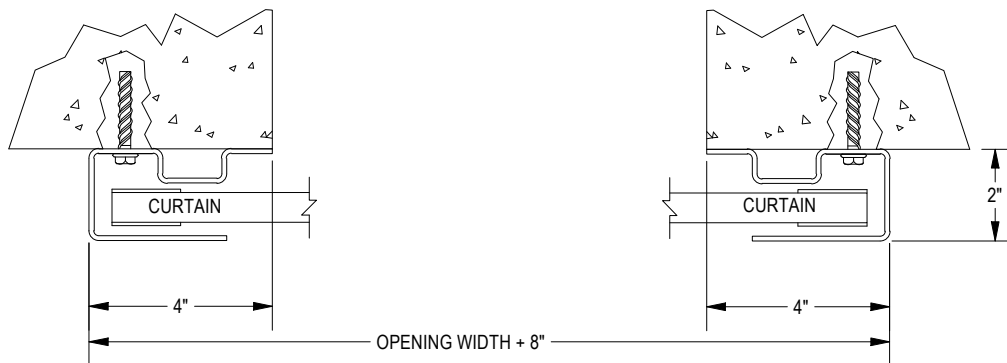

FIGURE 9: CONCRETE/MASONRY JAMBS
- **MASONRY JAMBS:** $\frac{1}{4}$ " X 1 - $\frac{3}{4}$ " WEDGE BOLT. See Page 9, Figure 9.